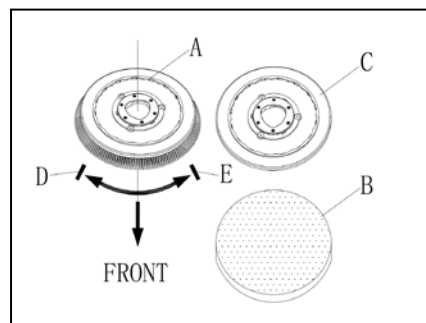

Figure 8
Install either the brush (A, Figure 8) or pad-holder (B and C, Figure 8) according to the type of floor to be cleaned.
1. Make sure that the power switch (45) is turned to off position “o”.
2. Lift the tank (25) by prying the handlebar (2).
3. Rotate the brush (A, Figure 8) or the pad-holder (B/C, Figure 8) in clockwise (direction of arrow mark D, Figure 8) to install it to the deck.
4. Rotate the brush or the pad-holder in counterclockwise (direction of arrow mark E, Figure 8) to uninstall it from the deck.